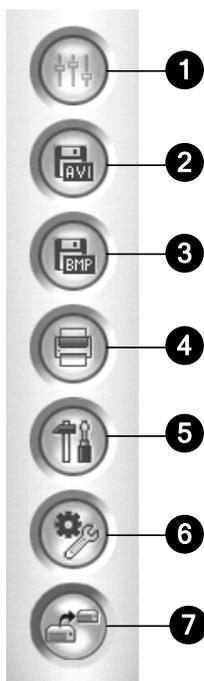

Figure 4-2 Function Panel
3. Click the **Save As AVI** button (No. 2, Figure 4-2). This window appears.